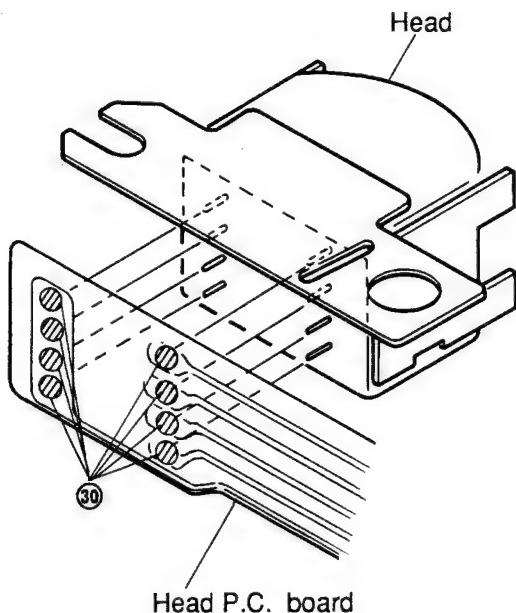

Figure 22
- (2) Remove solder **③⁰** and remove the head from the head PC board as shown in Figure 22.
- (3) After replacement, mount the new head following the removal steps in the reverse order.